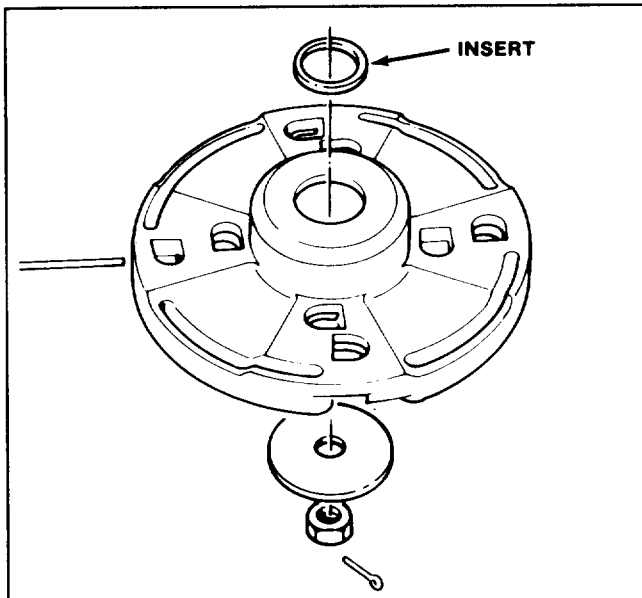

Figure 17
4. Remove the spool, being careful not to lose the insert (Fig. 17).